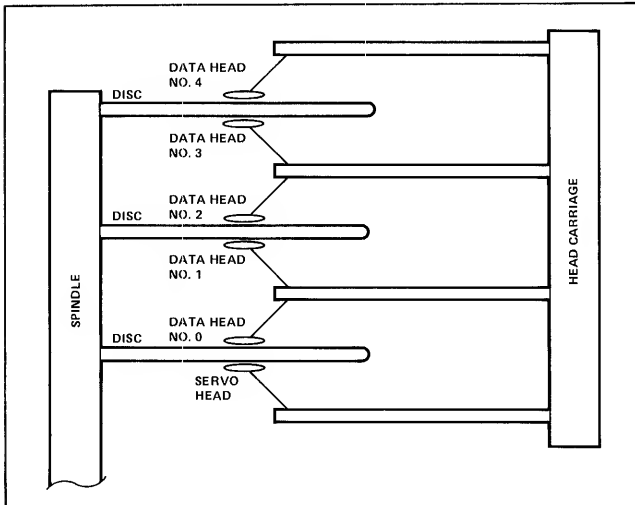

Figure 3-1. Servo and Data Surfaces
3.1 Overview. The PRIAM 3450 Disc Drive has three discs, with a total of six magnetic surfaces. Each surface accommodates one head, as shown in Figure 3-1. On the “bottom” surface, the head reads the servo information. The remaining heads write and read data surfaces 0 through 4.